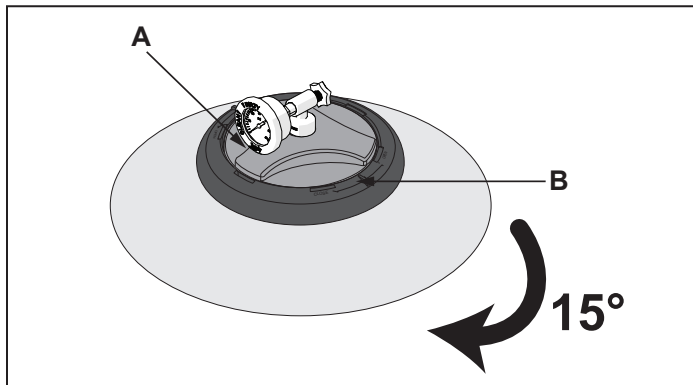

Figure 10. Tighten Lid (A) Then Hand Wheel (B)
2. Insert the lid into the filter until it drops home. Turn the lid 15° clockwise (A), then turn the hand wheel (B) as far as it will go clockwise. Fig. 10